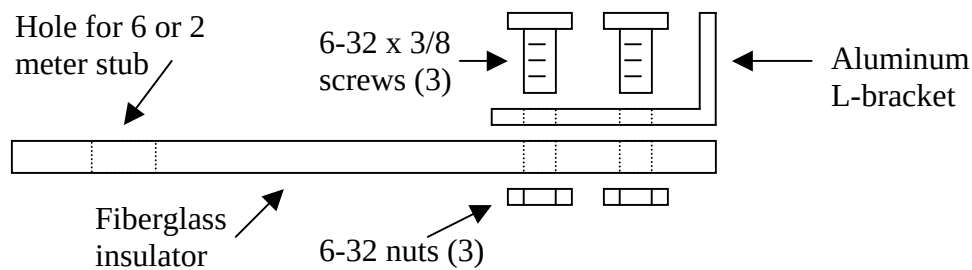

Figure 5
- 7) Assemble the two small "L" brackets to the two long fiberglass insulators with 6-32 x 3/8" screws (3 each) and the 6-32 kep nuts (3 each) as shown in Figure 5.